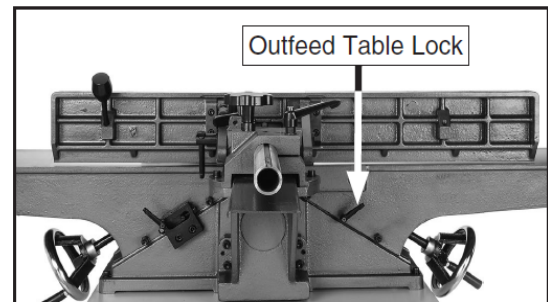

Figure 11
3. Loosen outfeed table lock.(Figure 11)